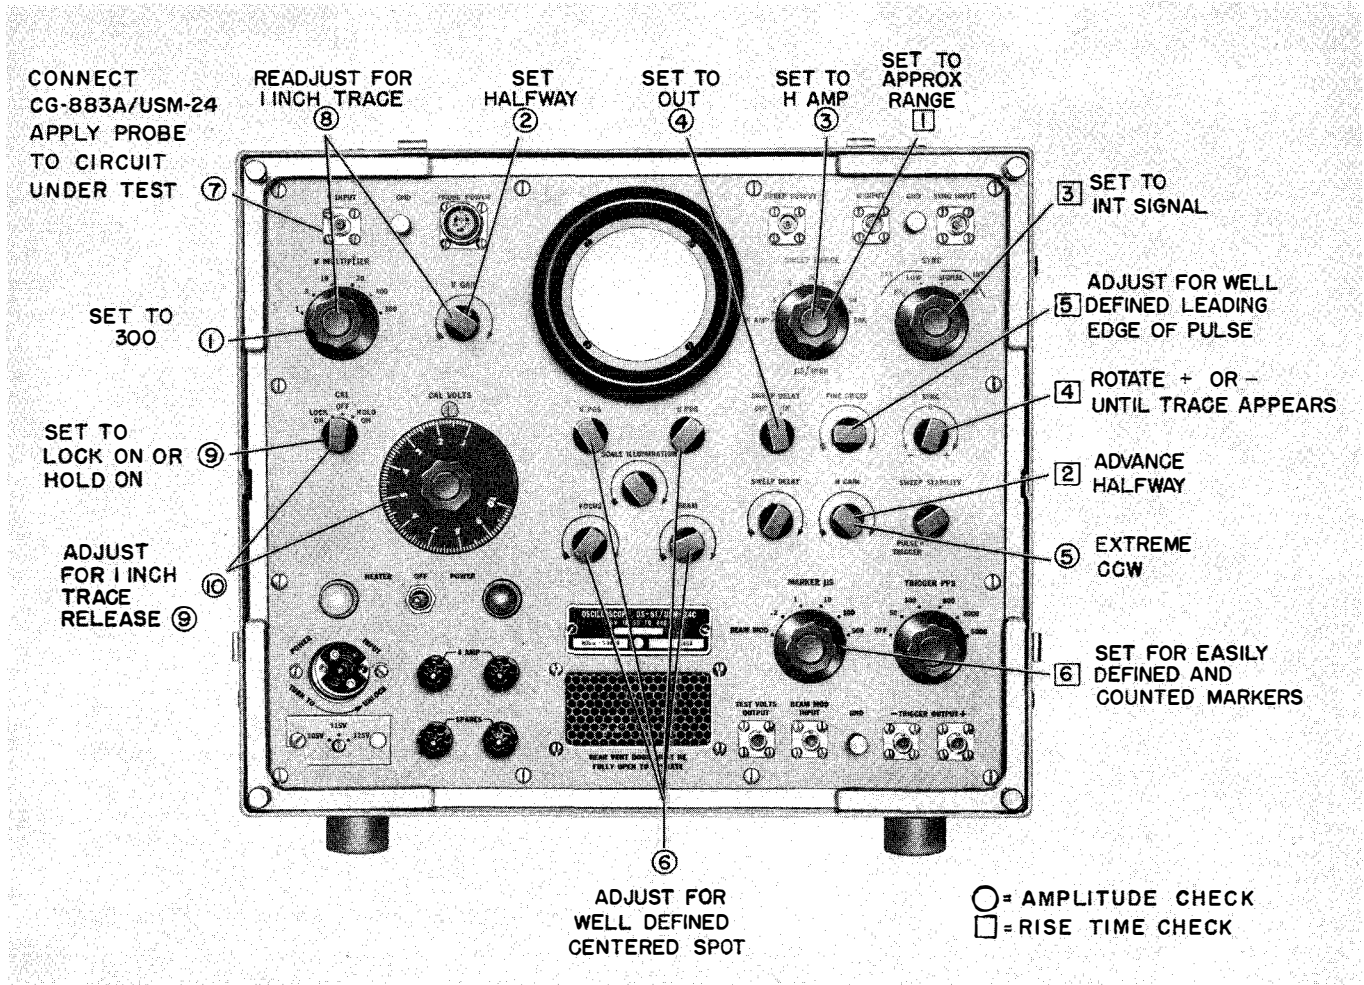

Figure 4-4. Control Settings for Basic Measurements
This paragraph and figure 4-4 will serve to illustrate exact procedures for taking two basic measurements—the AMPLITUDE and RISE TIME of a pulse. The steps necessary for checking AMPLITUDE are indicated in figure 4-4 by circled (O) numbers, and the steps necessary for checking RISE TIME are indicated by blocked (\square) numbers. Also see paragraph 8 and 9 for general information.
- (1) Set V MULTIPLIER to 300.
- (2) Set V GAIN halfway.
- (3) Set SWEEP RANGE to H AMP.
- (4) Set SWEEP DELAY to OUT.
- (5) Set H GAIN extreme counter-clockwise.
- (6) Adjust BEAM, FOCUS, V POS and H POS for a well defined spot in the center of the screen.
- (7) Connect Test Lead CG-883A/USM-24 to V INPUT and apply to circuit under test.
- (8) Readjust V MULTIPLIER and V GAIN for 1 inch deflection.
- (9) Set CAL switch to either HOLD ON or LOCK ON position.